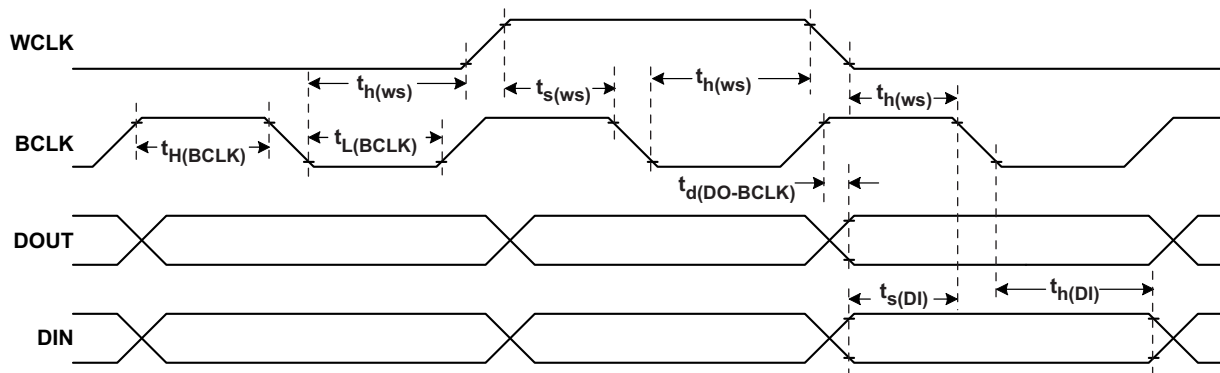

Figure 43. DSP Timing in Slave Mode
**Table 8. DSP Timing in Slave Mode (see Figure 43)**